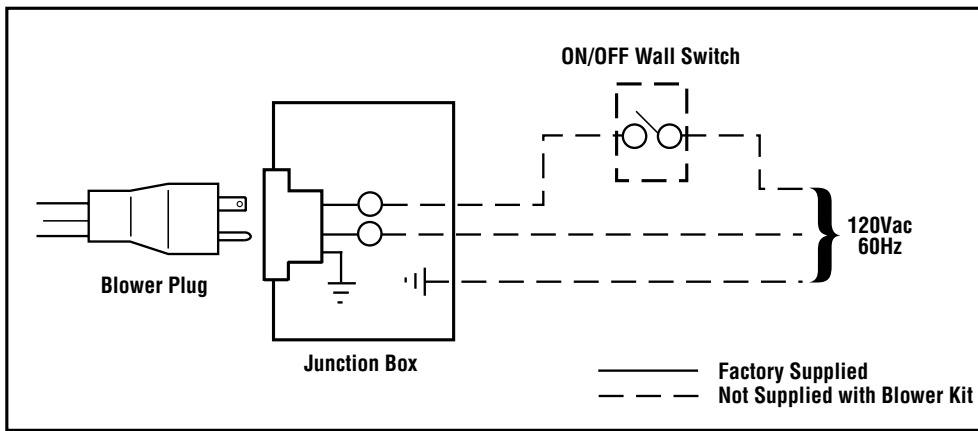

Figure 3
Step 3. Route the blower sleeved power cord to a switched, standard grounded three pronged outlet mounted on the appliance internal "J" box cover plate prewired at the time of appliance installation (see page 2 of this document, **Figure 3**). Ensure power cord minimizes contact with hot appliance surfaces. Operate the FAB-1100 from the switch controlling power to the appliance junction box.